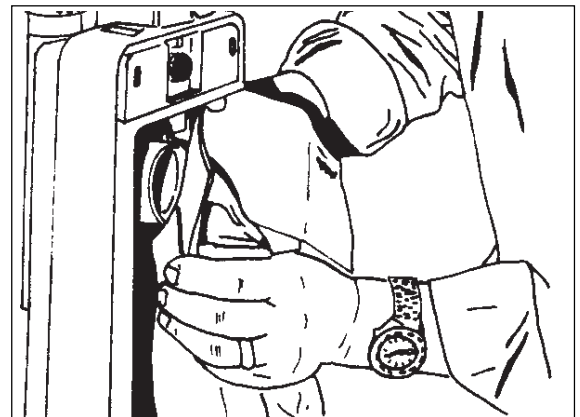

Figure 4
- c. Put the opening in the cardboard inlet over the bag adapter. See figure 4.